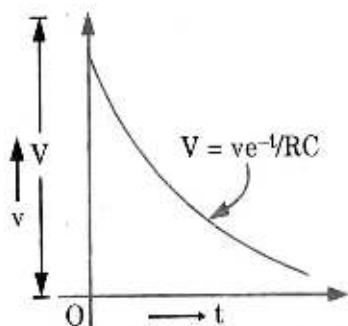

Fig. 3.7.2. Variation of voltage with time.
5. The variation of voltage v with time t is shown in Fig. 3.7.2.